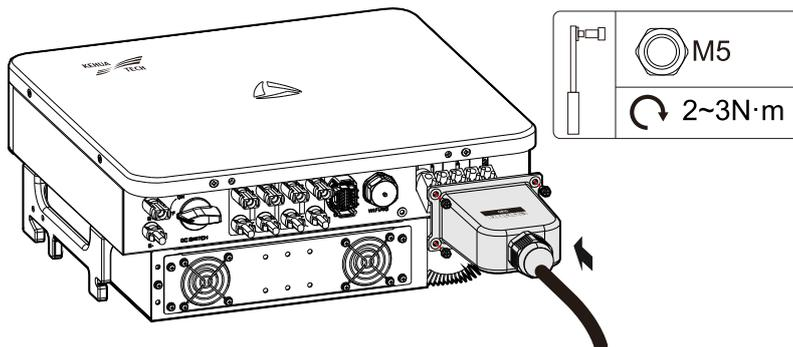

Figure3-27 Fasten the AC output waterproof cover
- Step 3 After wiring, fasten the AC output waterproof cover to the inverter by equipped four stainless steel combination bolt M5*12 and then fasten the external AC output nut, as shown in Figure3-27.